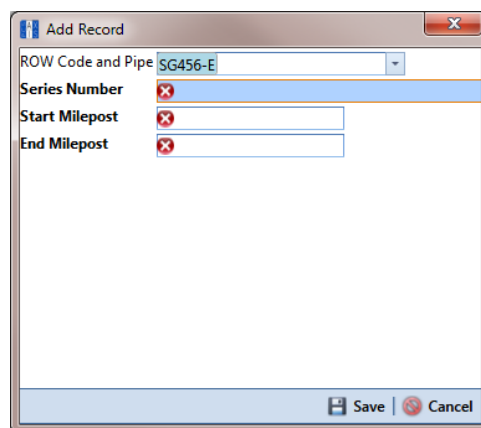

Figure 3-72. Add Record
- 5 Click **Save** to display required field(s) for data entry. Required fields are identified with the **✖** icon, such as *Series Number*, *Start Milepost*, and *End Milepost* in the next figure (Figure 3-72).